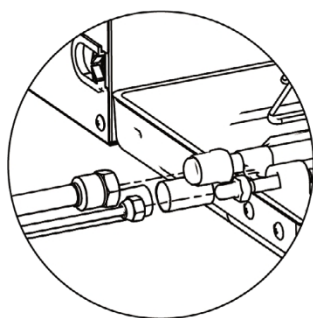

Fig. 16
- 2 Align the flared end of the copper tube with the center of the threaded fitting. Tighten the flared nut securely by hand; see Fig. 16 (Make sure the inner tube is properly connected. Incorrect centering will prevent the flared nut from being tightened properly. The nut's threads will be damaged if the flared nut is forced into place).